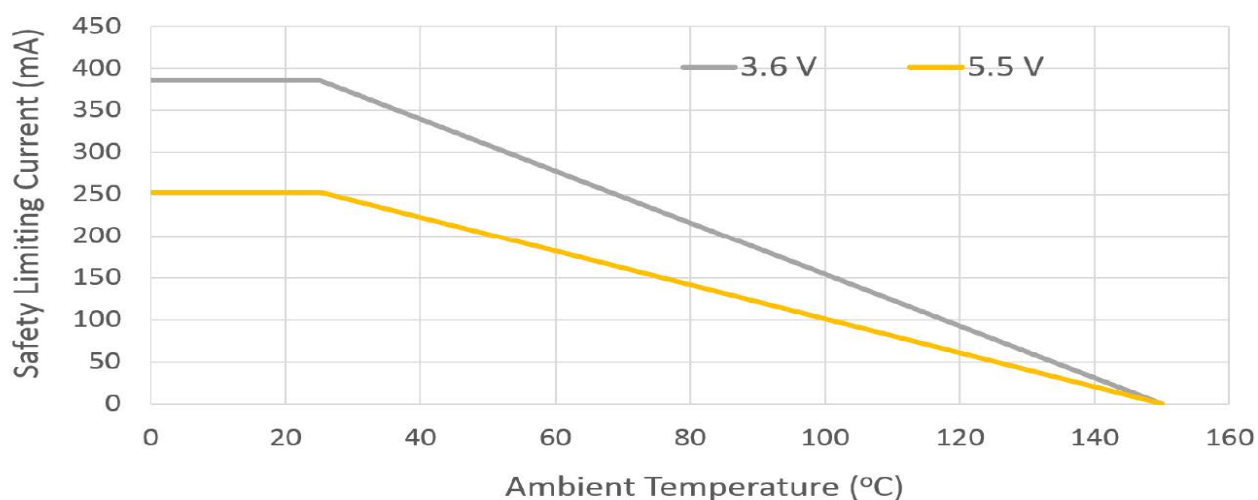
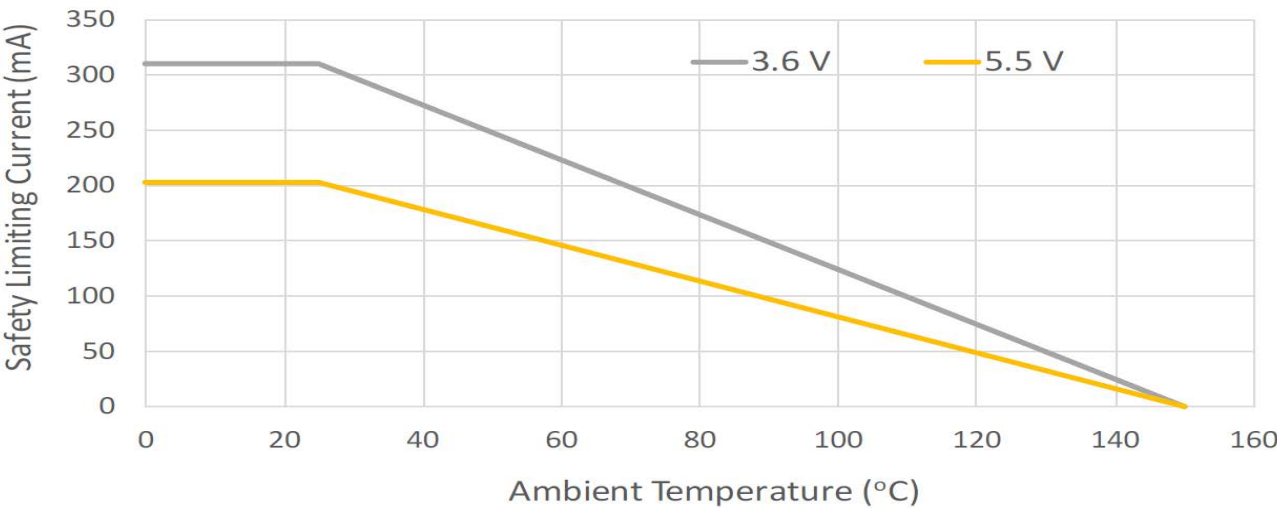

Figure 33. WB Stretched SOIC-8 Thermal Derating Curve (Dependence of Safety Limiting Current)
Figure 34. NB SOIC-8 Thermal Derating Curve (Dependence of Safety Limiting Current)
1. Maximum value allowed in the event of a failure. Refer to the derating curves Figure 33, “WB Stretched SOIC-8 Thermal Derating Curve (Dependence of Safety Limiting Current),” on page 16 and Figure 34, “NB SOIC-8 Thermal Derating Curve (Dependence of Safety Limiting Current),” on page 17.